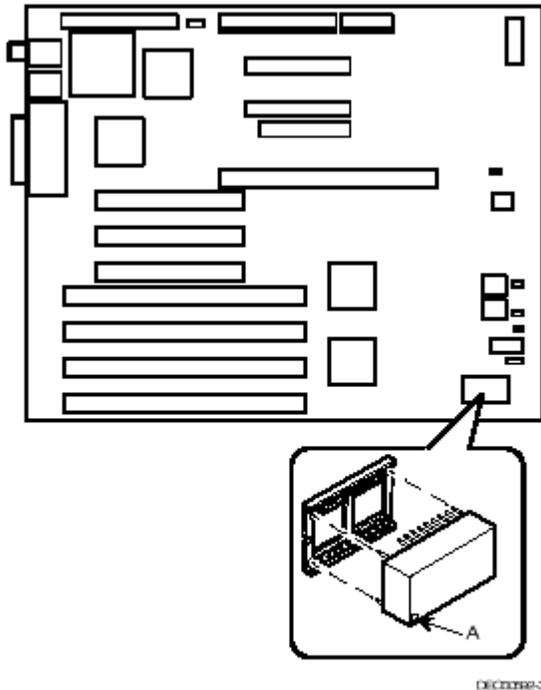

Figure 3-15. Installing the Server Battery
4. Remove the RTC chip (ref. to Fig 3.15 below)
5. Install the new RTC chip (ref. to Fig 3.15 below).
CAUTION: Make sure pin 1 on the battery is correctly aligned with the pin 1 location on the socket (A, Figure 3-15). The pin 1 location on the battery is designated by a (white) dot in the lower left corner of the battery. Incorrect installation may cause faulty server operation.